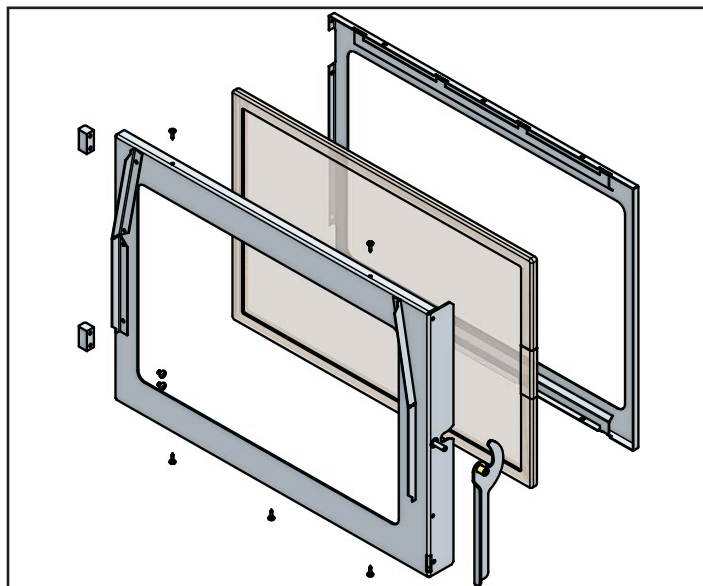

Figure 20.3
2. Using a Phillips head screw driver, remove 4 screws, 2 on the top and 2 on the bottom. Remove metal bracket and then remove the glass. **Figure 20.3**